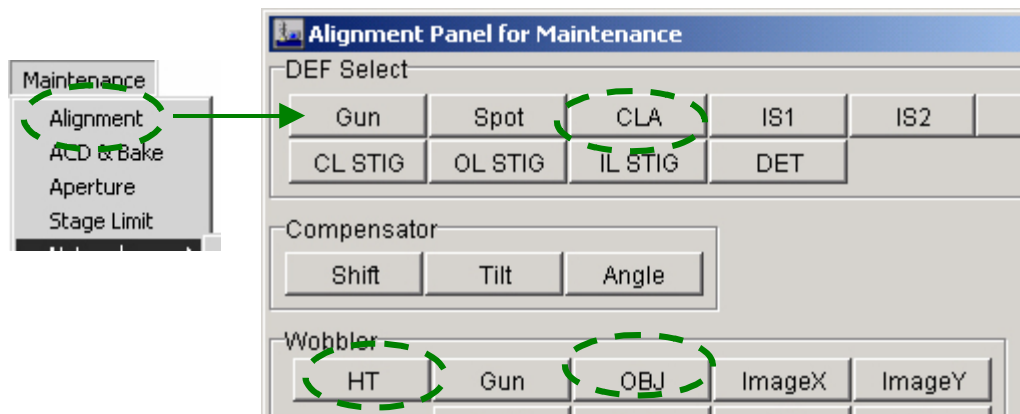

Fig. 5.27 Alignment Panel for Maintenance window
- ◆ Select **Maintenance** from the **TEM Controller** menu bar and click on **Alignment** to open the **Alignment Panel for Maintenance** window (Fig.5.27).
2. Focus the image using OBJ FOCUS (R1-⑥).
4. Press the HT WOBB switch (R1-①) or click on Wobbler **HT** in the **Alignment Panel for Maintenance** window; the image then expands and contracts periodically.
5. Press the BRIGHT TILT switch (L1-⑤) or click on DEF Select **CLA** in the **Alignment Panel for Maintenance** window (☞ Fig.5.27).
6. Adjust DEF/STIG (L1-⑩, R1-④) so that the image expands and contracts around the center of the fluorescent screen.
7. Press the HT WOBB switch or click on Wobbler **HT** in the **Alignment Panel for Maintenance** window to turn it off (☞ Fig.5.27).